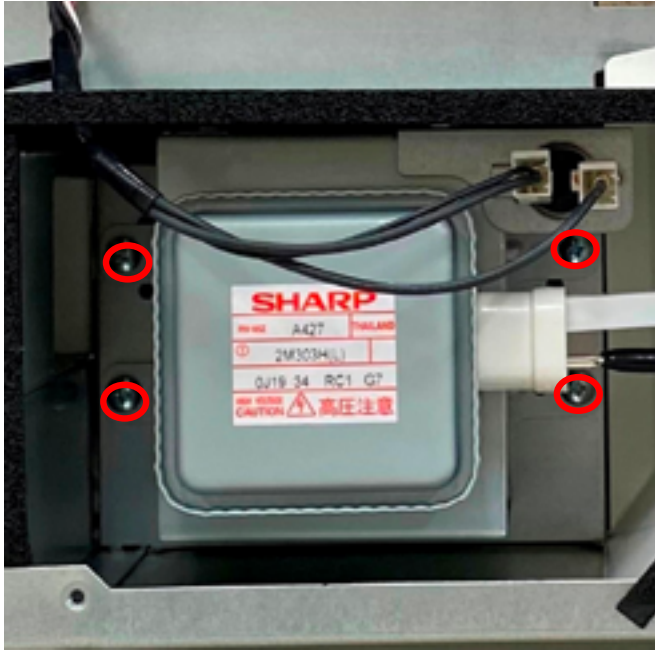

Fig. M-1
2. Unhook wires from the Magnetron Temp Fuse and Magnetron. (**Fig. M-1**).
3. Remove the (4) screws holding the Magnetron to the cavity and carefully pull out (**Fig. M-1**).